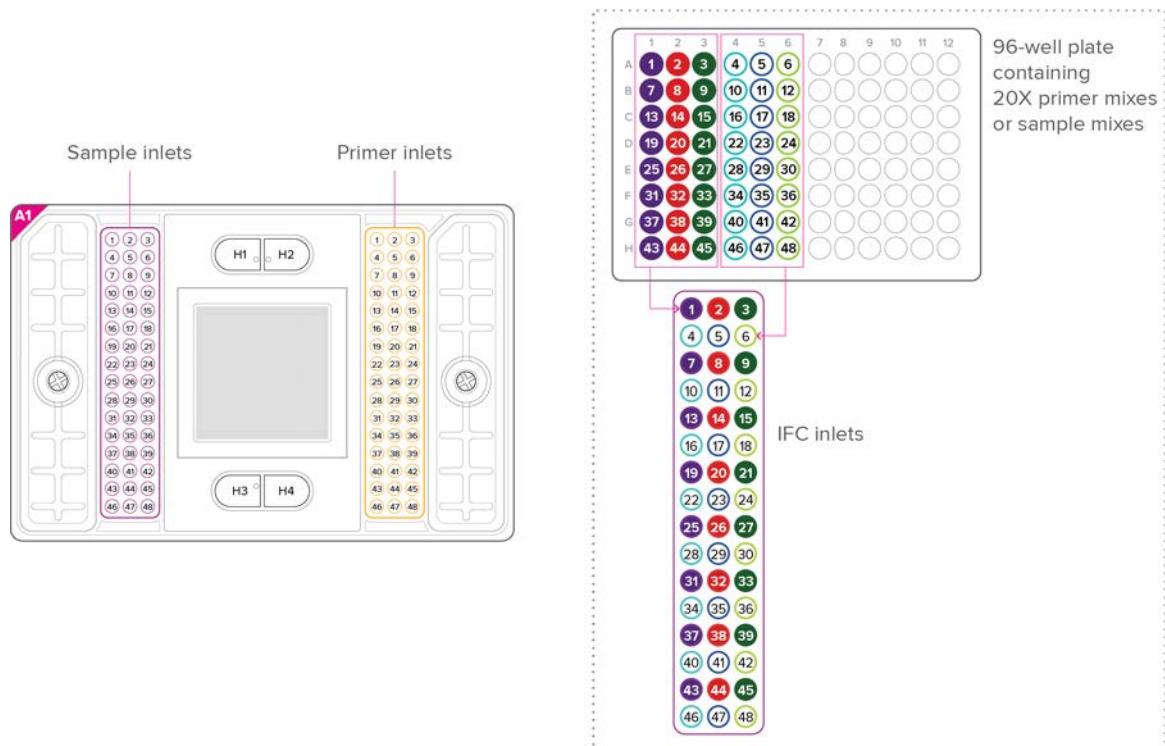

Figure 3. Primer and sample loading map
- 2 Use an 8-channel pipette to load the 20X assay mixes and sample mixes into the LP 48.48 IFC, as shown in Figure 3.